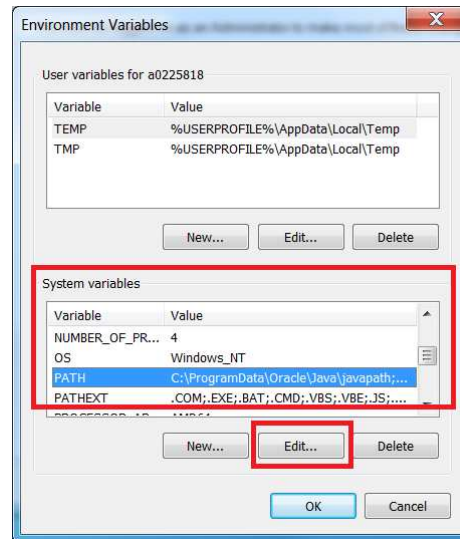

Figure 13. Edit PATH Environment Variable
4. In the system variables field, browse to the entry labeled “Path” or “PATH.” Highlight the entry and click “Edit” as shown in Figure 13.